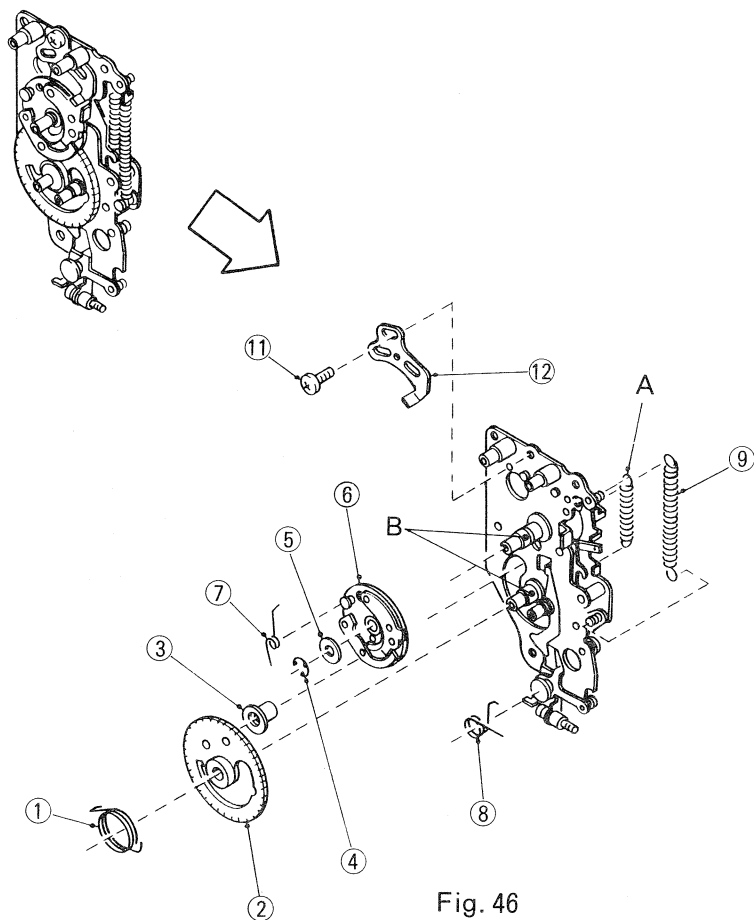

Fig. 46
1. Disassemble the winding base plate in the numerical order as illustrated. (Fig. 46)
Note: Apply Moebius grease (#No. 8300) to the pillar (B) (Fig. 46).